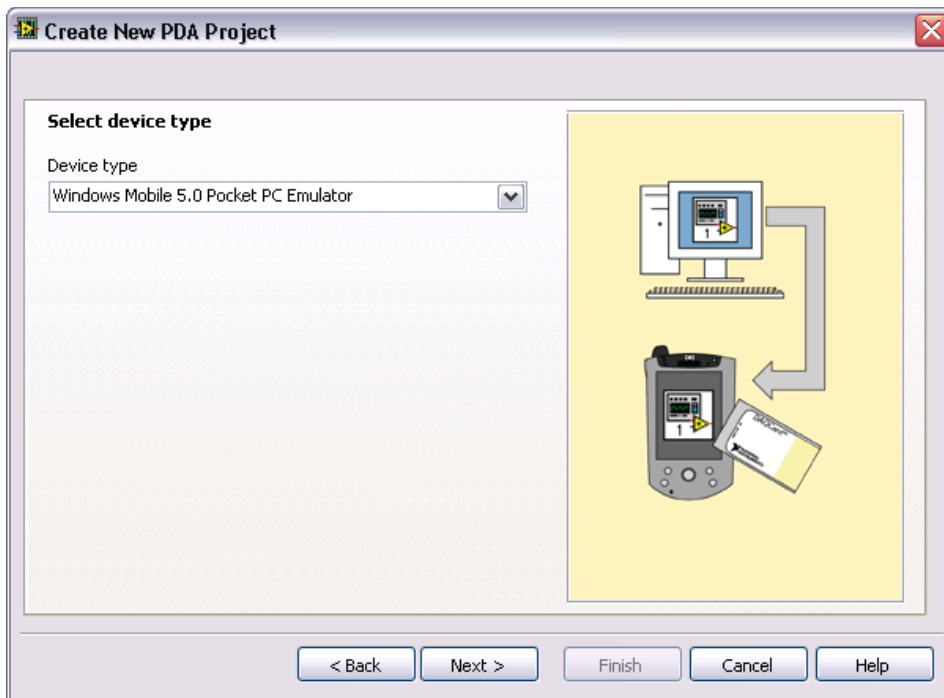

Figure 2. Selecting the PDA Device Type
4. Select the **Windows Mobile 5.0 Pocket PC Emulator** from the **Device type** pull-down menu as shown in Figure 2.